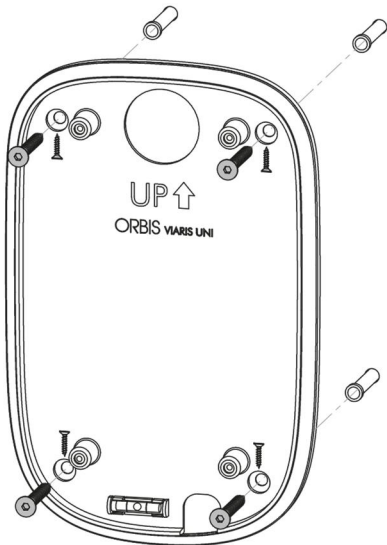

Fig.1
- Bolt the installation plate to the wall. **Fig. 1**